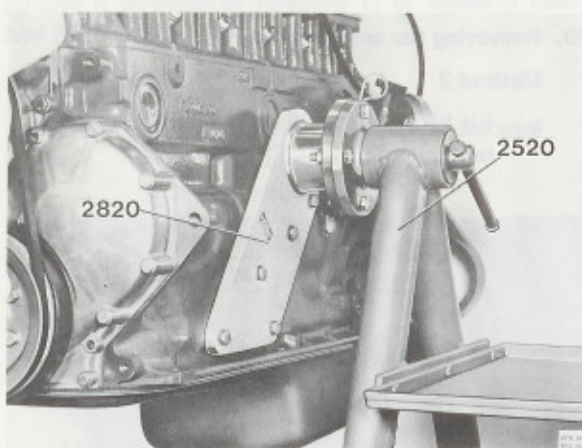

Fig. 21-6. Engine on stand
1. Remove the oil trap, fuel pump and left engine mount. Mount the engine on stand 2520 with fixture 2820, Fig. 21-6.